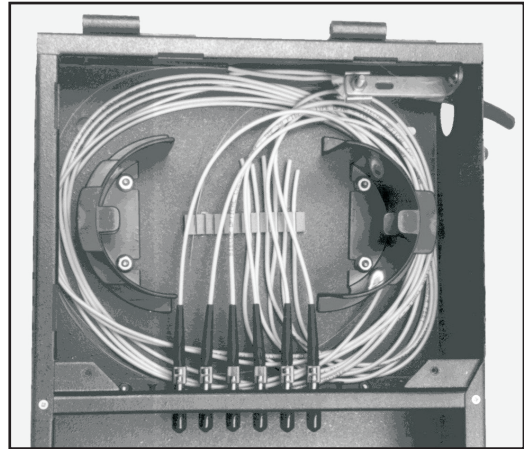

FIGURE 3 - ROUTE THE PIGTAILS
- 7.04 Route the pigtails through the center of the Fiber Radius Hoops, around the splicing compartment one and one-half turns and into the Splice Block. (as illustrated in Figure 3) Remove excess pigtail length.